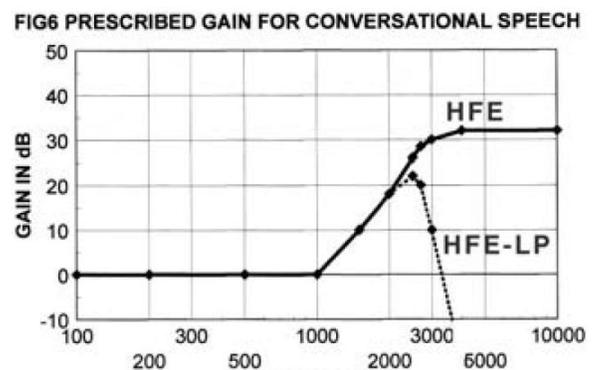
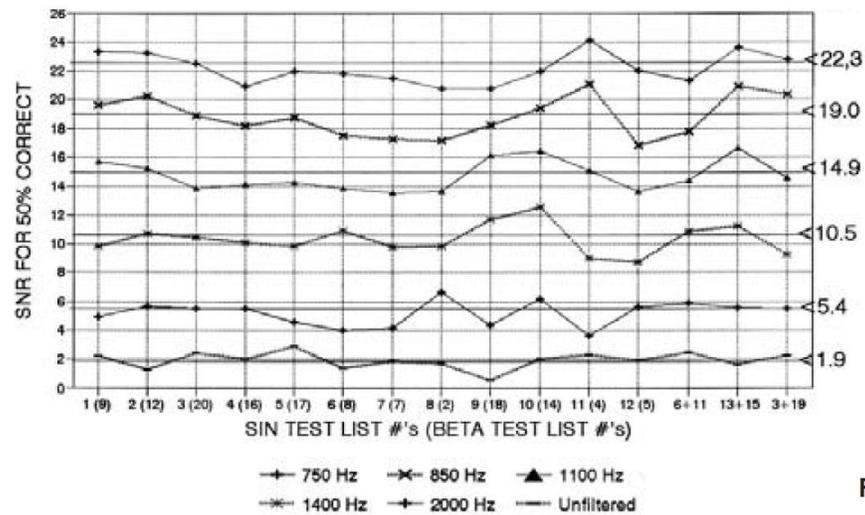

Figure 2
Figure 6
Figure 2 shows the high-frequency emphasis added to the *QuickSIN* lists to obtain the recordings labeled **HFE**. This frequency response was obtained from FIG 6 (1997) for 65 dB (normal speech) inputs for a patient with 60-70 dB ski-slope loss.
A new set of recordings labeled **HFE-LP** were generated by low-pass filtering the **HFE** recordings with a brickwall filter set at 2.5 kHz. The resulting frequency response is also shown in Figure 2. By comparing the SNR results obtained with the **HFE** and **HFE-LP** lists, it is possible to determine whether or not extended high-frequency amplification is useful. For a test accurate to 1.9 dB (95% confidence interval for the difference between the two conditions), four **HFE** and four **HFE-LP** lists are required, a total of 8 independent lists used alternately.
**Figure 6** shows a plot of the across-subject average data (renumbered lists) for the lists included on the final *QuickSIN*.
- Bentler, R (2000). List Equivalency and Test-Retest Reliability of the Speech in Noise Test. *Am J Audiol*, 9 (2): 84-100.
- Etymotic Research (1997). FIG 6 for Windows (3.5" diskette) 61 Martin Lane, Elk Grove Village, Illinois 60007.